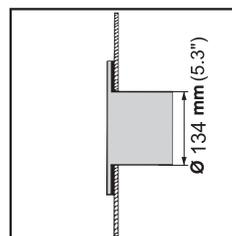

Fig. 7.
- Fit the flange accessory provided Follow Figures 7, 8 or 9 - whichever closely matches your installation.